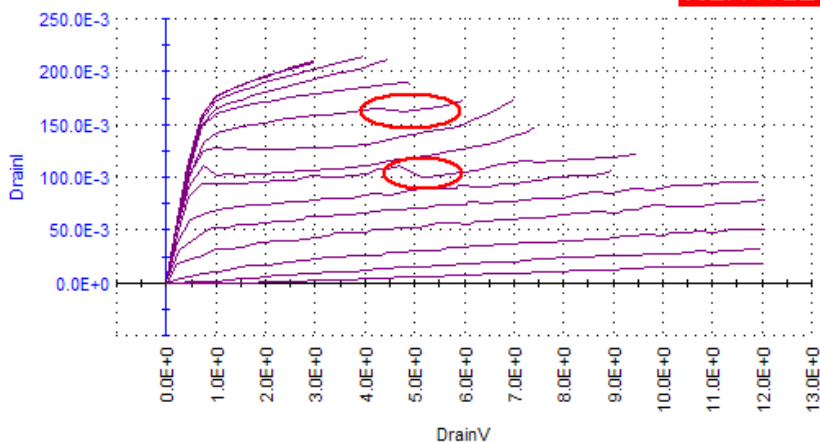
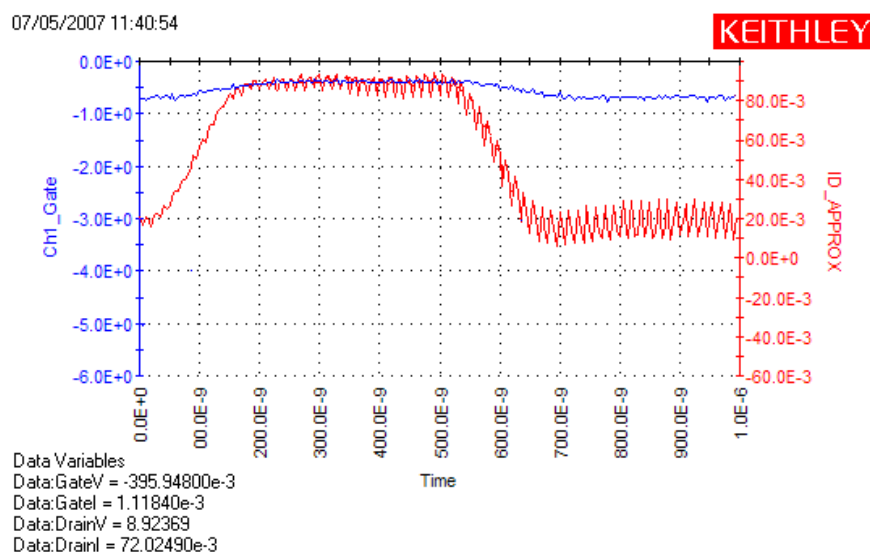
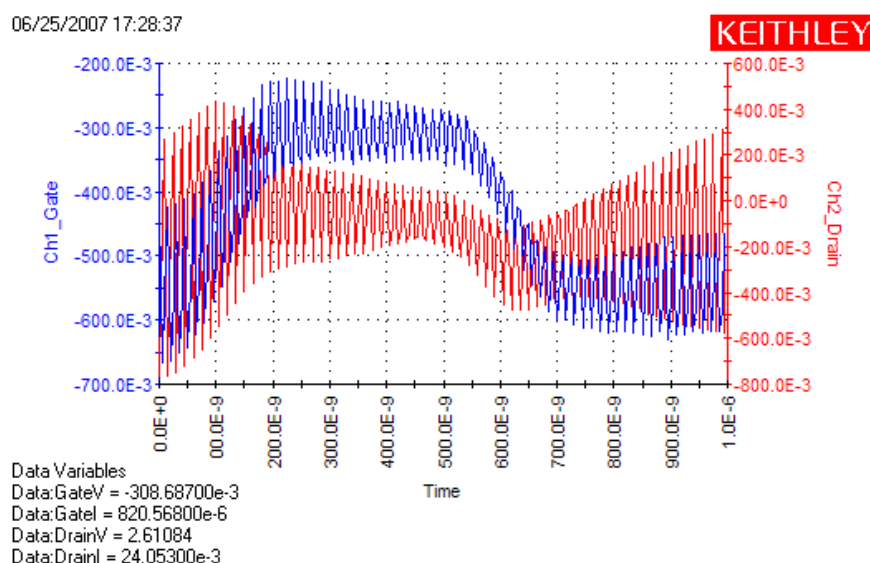

Figure 22. Pulse V_D - I_D family of curves, with circles areas showing deviations possibly caused by oscillation.
Figure 23. Pulse waveform, from ScopeShot-FET, showing oscillation on the red I_D curve.
Figure 24. Pulse waveform, from ScopeShot-FET, showing significant oscillation on both the blue V_G and red I_D curves.
1. Experienced user can look at a family of curves and note oscillation areas as deviations from the expected characteristic response. An example of relatively small deviations is shown in Figure 22.
2. ScopeShot waveforms can also be used. Figure 23 shows oscillation on the I_D curve. This is just one example, the oscillations may be more subtle, showing undesirable undulations where the pulse top should be flat, or more severe, where the entire pulse waveform shows oscillation (Figure 24).
It is important to note that Figure 22 indicates that the other curves, or even other portions of curves where the deviations occur, are probably not oscillating. In reviewing of the results shown in Figure 22, the user may decide that the results are acceptable and post-processing of the data will be utilized. If the ScopeShot results shown in Figure 23 or 24 are seen using sweep conditions, then steps must be taken to reduce or eliminate the oscillation.